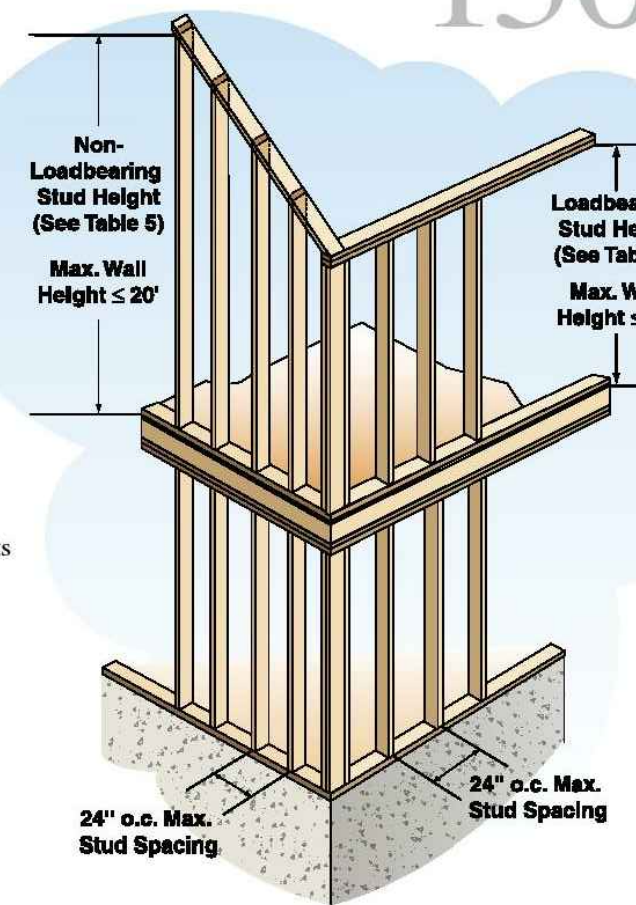

Figure 10. Maximum Wall and Stud Height and Stud Spacing
- Wall Heights.** Loadbearing walls shall not exceed 10 feet in height. Non-loadbearing walls shall not exceed 20 feet in height (See Figure 10).
- Wall Stud Spacing.** Wall stud spacing shall not exceed 24 inches on center (See Figure 10).